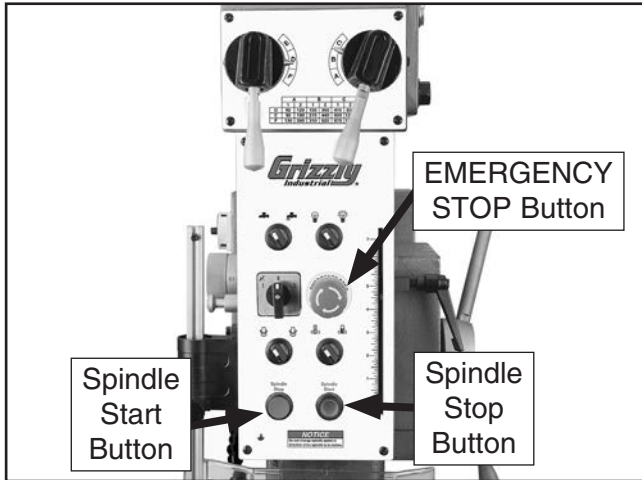

Figure 11. Resetting the switch.
4. Press the EMERGENCY STOP button (Figure 11) in, then twist it clockwise so it pops out. When the button pops out the switch is reset and ready for operation.